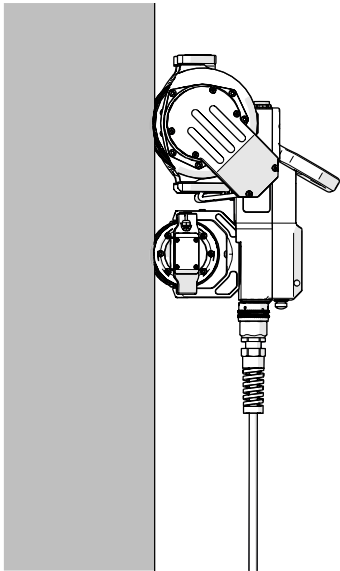
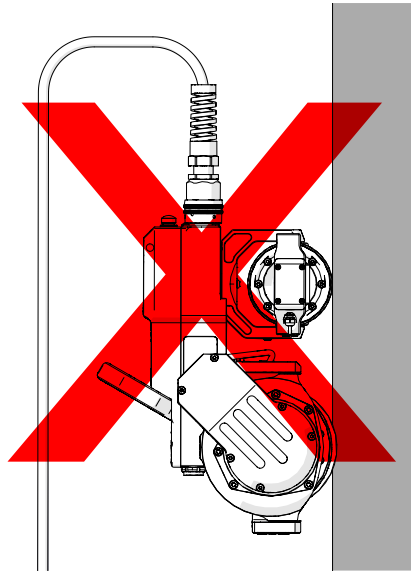

Fig. 55 - Correct use
Fig. 56 - Incorrect use
For operating at heights greater than 2 m (6 ft), ensure the umbilical strain relief is aligned according to the below instructions and never points upwards as shown in (Fig. 56). The crawler could fall.
1. For scanning at heights greater than 2 m (6 ft), the umbilical must be set parallel to the scanning surface (Fig. 55). Ensure the umbilical never points upwards during operation (Fig. 56).